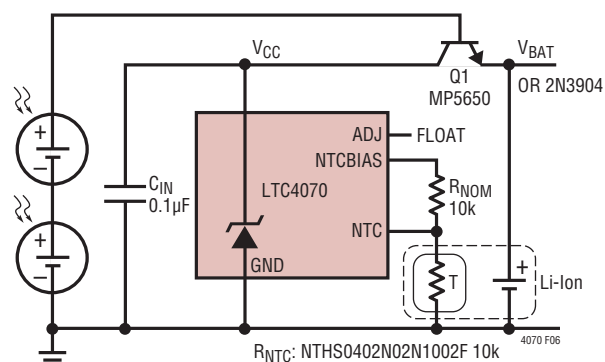

Figure 6. Photovoltaic Charger with Extremely Low Leakage When Not Charging
A photovoltaic (PV) application for the LTC4070 is illustrated in Figure 6. In this application, transistor Q1 has been added to further reduce the already low quiescent current of the LTC4070 to achieve extremely low battery discharge when the PV cells are not charging the battery. In long battery life applications, Q1 isolates the battery from the LTC4070 when Q1's base voltage falls. Under normal operation, the PV cells provide current through the
The PV application schematic in Figure 6 also illustrates using the LTC4070 with a 10k, 5% curve 2 type NTC thermistor, NTHS0402N02N1002F. Here R_{NOM} is 10k, and the rising temperature trip points are 40°C, 50°C, 60°C and 70°C.